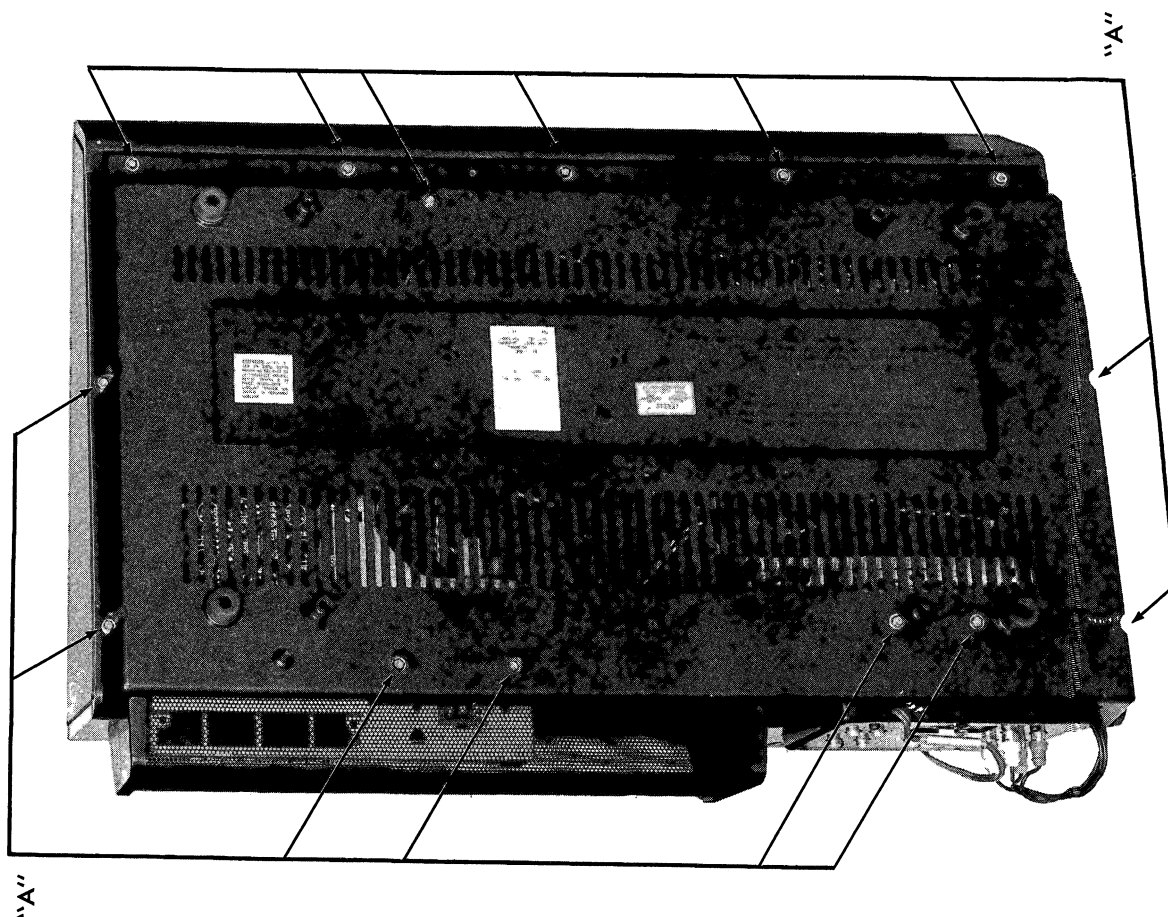

FIGURE 25 - MODELS G596W AND GR596W
Basic disassembly procedure for the above models, using Chassis 12WGR59, is simplified due to modular construction techniques with the use of convenient cable connectors. This is illustrated by the accompanying photos, in Figures 25 through 28.
2. Remove fourteen (14) screws holding bottom cover ("A" in Figure 25).